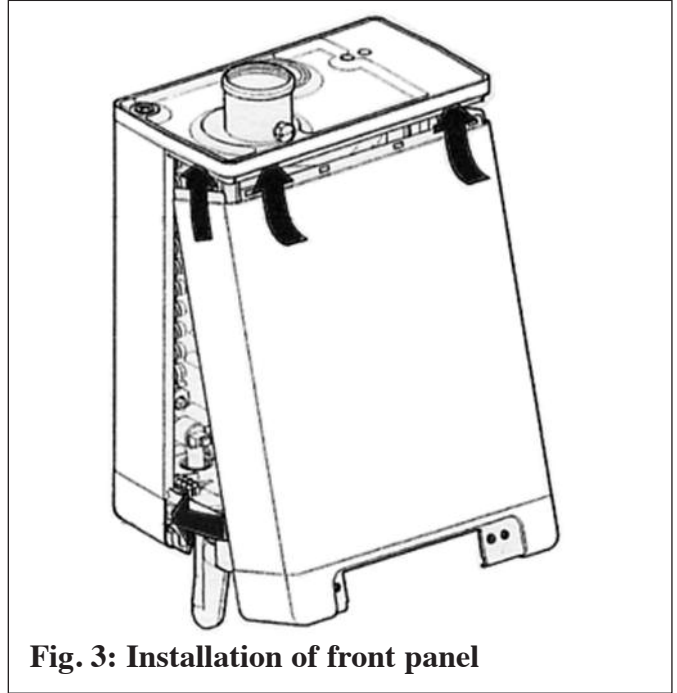

Fig. 3: Installation of front panel
- Mount the front jacket panel by engaging the top of the panel into the top jacket panel (Fig. 3).